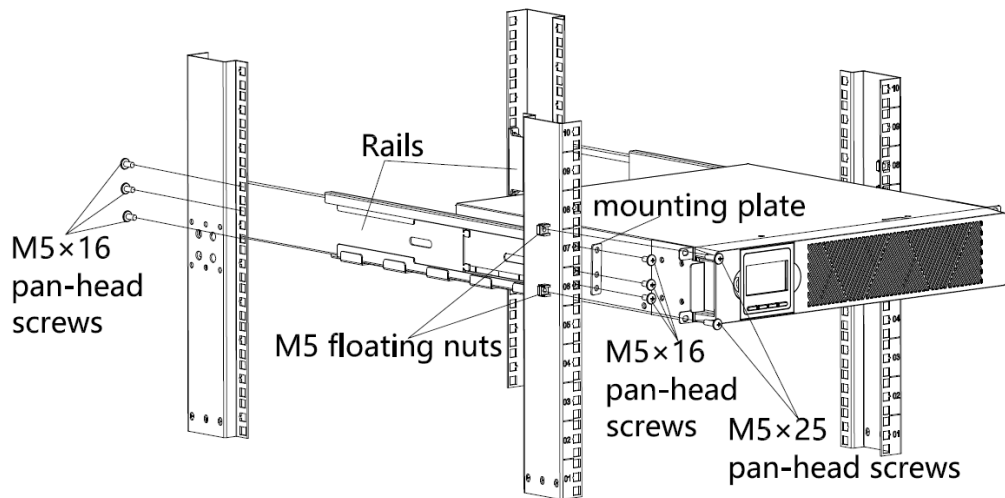

Figure 1 Securing the Rails
- a) Assemble the left and right rails to the rear rails as shown in Figure 1. Do not tighten the screws.
- b) Select the proper size in the rack for positioning the UPS (see Figure 1). The rail occupies four positions on the front and rear of the rack.